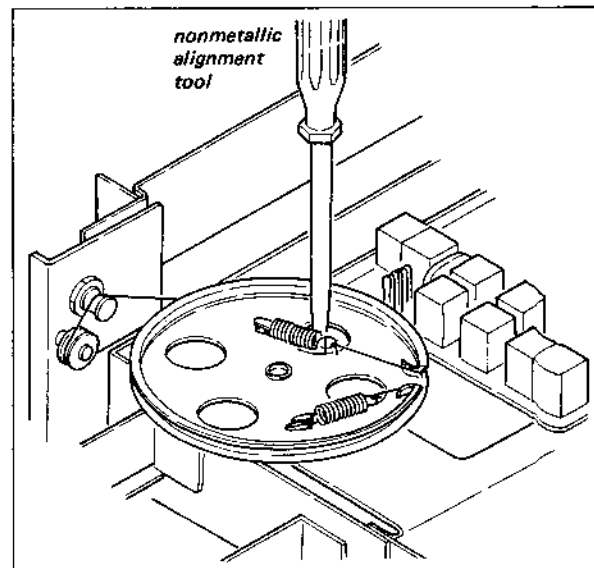

Fig. 3-5 Transformer FM IFT-A alignment
3. Rotate the TUNING shaft to locate the hole of the tuning-capacitor drive-drum above transformer FM IFT-A on the front-end circuit board. This allows you to align transformer FM IFT-A with an alignment tool through the hole in the drum, as shown in Fig. 3-5.